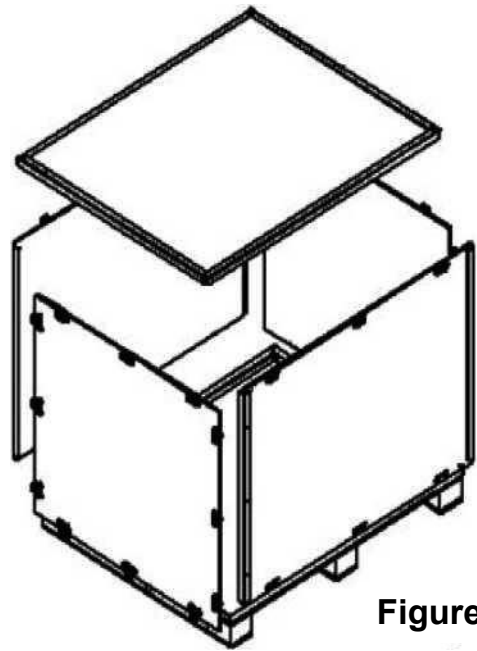

Figure5
- ✧ Check the packaging damage and the rain and other damage phenomenon, using the tool unpack the packing as shown in Figure 5, please dispose of packaging box, lest the environmental pollution.